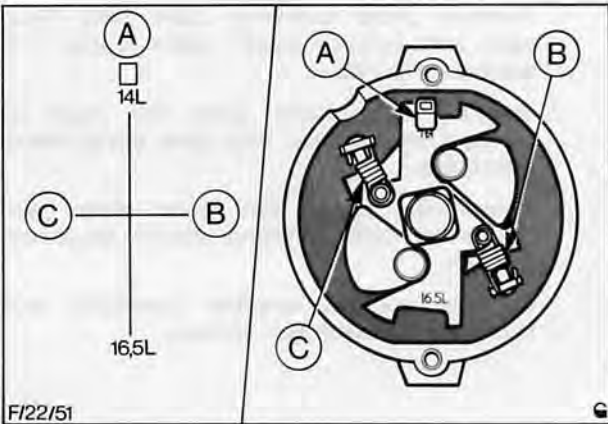

Fig. 43. Cam plate and advance spring location
7. Make a sketch (Example shown in Fig. 43) of the position of the cam and plate assembly in relation to the bump stop. (Two different numbers will be stamped on the outer edges of cam plate) also note position of the two advance springs. (Advance springs will be of different sizes).
IMPORTANT NOTE: Figure 43 shows an example only and numbers shown on the cam plate will vary according to type of distributor being overhauled. Also advance springs could be fitted on opposite posts.
NOTE: Ensure cam plate is fitted correct way round in relation to the bump stop. Refer sub op 7 and Fig. 43. If cam plate is being replaced the new unit should have the same numbers stamped on the outer edges.
- 14. Refit governor weight springs to their respective posts, Fig. 43.